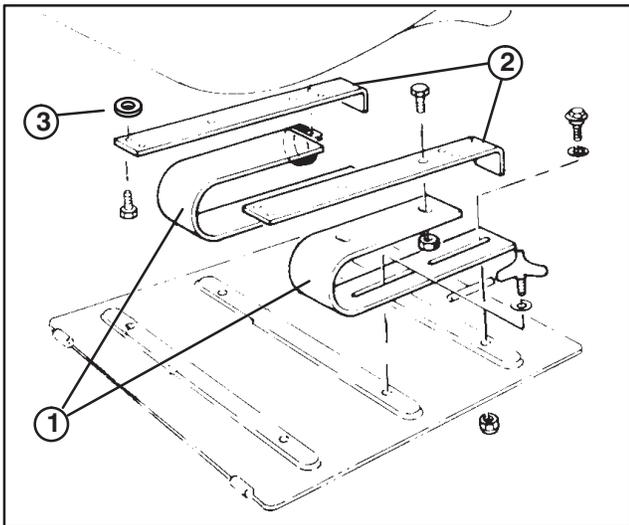

Figure 2
1. Attach "U" springs to seat mounting brackets with (4) capscrews and flange nuts as shown in figure 2.
2. Secure seat mount assemblies to bottom of seat with (4) flange head capscrews and (4) spacers. (Fig. 2). Spacers to be positioned between seat and seat mount.
5. Mount seat and spring assembly to rear holes in seat mounting plate with two shoulder bolts, small I.D. flat washers and locknuts (Fig. 2 & 5).
3. Shoulder bolt with washer and locknut (2)
4. Adjustment handle (2)
6. Secure front slot of seat springs to traction unit front mounting holes with adjustment handles and flatwashers (Fig. 2 & 5).
3. Install manual tube into R-clamps, insert manual into tube and thread cap into tube (Fig. 2). Tighten capscrews.